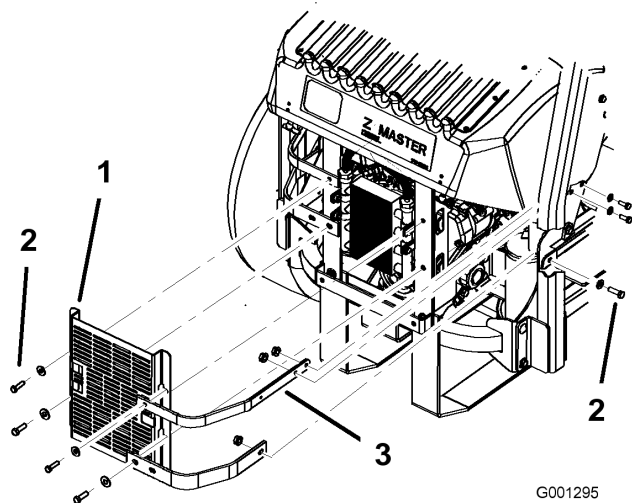

Figure 59
3. Remove the 4 bolts holding the oil cooler shield to the rear frame (Figure 59).
4. Remove the 3 bolts holding the engine straps to the side of the machine (Figure 59).
12. Install the oil cooler shield and engine straps to the rear frame with the 4 bolts previously removed (Figure 59).
13. Install the engine straps to the side of the machine (Figure 59).